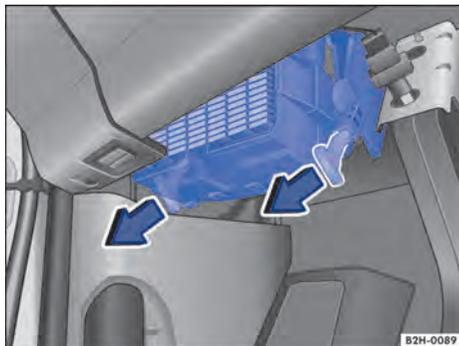

Fig. 169 Fuse box underneath the dash panel.
1. Pull the release lever down in the direction of the arrow to unlock the fuse box → Fig. 169.